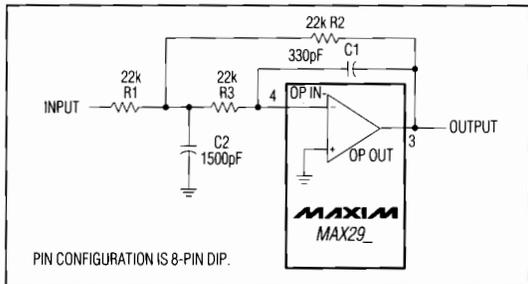

Figure 4. Uncommitted Op Amp Configured as a 2nd-Order Butterworth Lowpass Filter ($F_o = 10\text{kHz}$)
The uncommitted op amp has its noninverting input connected to the GND pin, and can be used to build a 1st- or 2nd-order continuous-time lowpass filter. This filter is intended for anti-aliasing applications preceding the switched-capacitor filter, but it can be used as a post-filter to reduce clock noise. Figure 4 shows one of many filters that can be built with this op amp: a 2nd-order Butterworth filter with a 10kHz corner frequency and an input impedance greater than 22k Ω . Table 1 gives alternative component values for different corner frequencies of the same Butterworth filter.
Table 1. Component Values for Figure 4's Filter
As the passband ripple of the MAX293/MAX294/MAX297 elliptic filters is of the order of $\pm 0.1\text{dB}$, it is normally appropriate to keep the passband errors of any anti-aliasing filter at or below this level. This is achieved by choosing the corner frequency of Figure 4's Butterworth filter (f_{cB}) to be higher than the corner frequency of the elliptic switched-capacitor filter (f_{cE}) by a factor of 2.5 or more. A factor of 5 or more is recommended to avoid problems with component tolerances, i.e. $f_{cB} > (5)f_{cE}$.